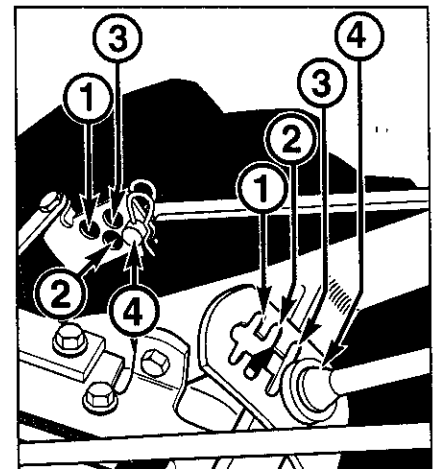

Figure 2-7: Numbered settings for handlebar height slots and clutch swivel plate holes.
3. There are four numbered holes in the clutch swivel plate (see Figure 2-7) and four numbered slots in the curved height adjustment bracket. For correct operation of the Forward Clutch rod, the numbered hole used for the Forward Clutch rod must
4. Select the proper hole in the clutch swivel plate and insert the Forward Clutch rod so that the tip faces inward (see Figure 2-7). *Secure the rod by inserting a second hairpin cotter through the hole near the tip of the rod.*